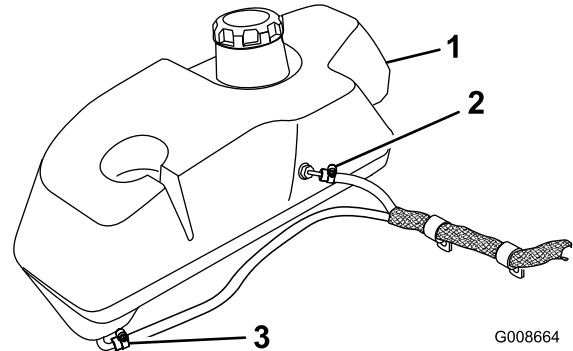

Figure 2
8. To drain the fuel tank, place a clean container under the front fuel tank connection, remove the fuel hose from the connection or cut the fuel line and direct the fuel line into the container (Figure 2).
9. Allow the fuel to drain into the container and wipe up any spilled fuel. Ensure the fuel line is removed from the tank connection (Figure 2).